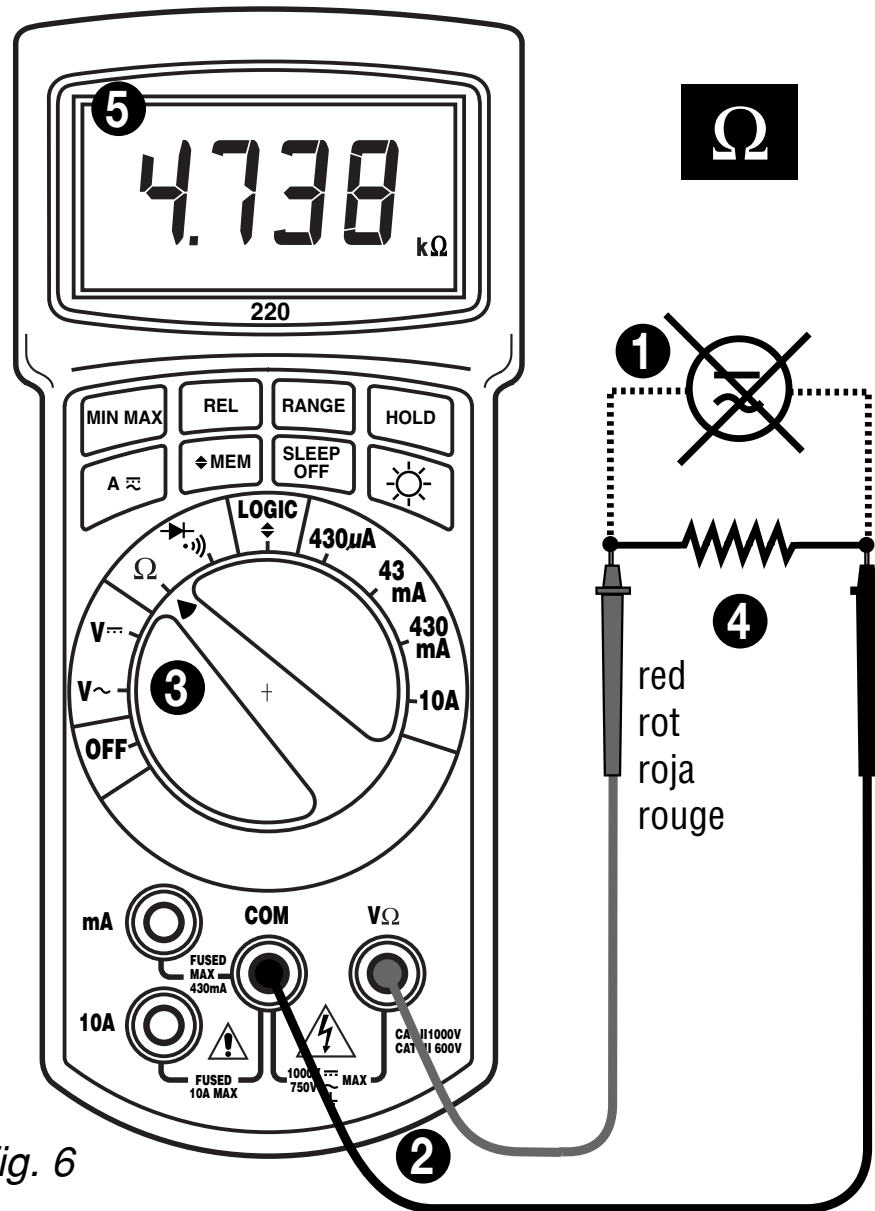

Fig. 6
RESISTANCE MEASUREMENT (See Fig. 6)
❶ Turn off any power to the circuit to be measured and discharge any capacitors. Any voltage present during a resistance measurement will cause inaccurate readings.
❷ Connect test leads as shown in figure 6.
❸ Set Function/Range Switch to Ω position.
❹ Connect test leads to circuit being measured.
❺ Read resistance value on Digital Display. Open circuits will be displayed as "I.O.L".
D • Widerstandsmessung (siehe Fig. 6)
E • Medidas de Resistencia (vea Fig.6)
F • Mesure de Résistance (voir fig. 6)